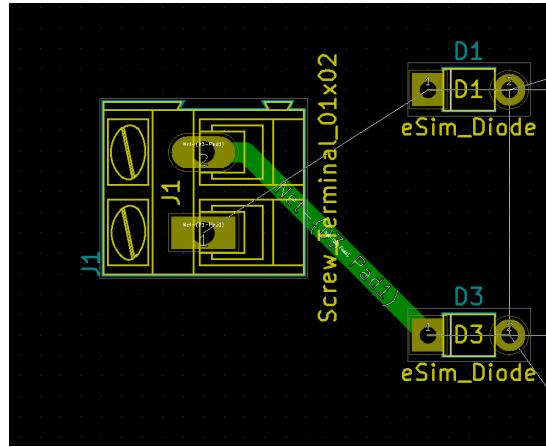

Figure 12.19: Track placed on B.Cu. between Screw\_Terminal\_01x02 connector and D3 Diode
4. Working layer is B.Cu., Place Track tool is selected earlier. Click the pencil icon tied to cursor on the Node 2 of Screw\_Terminal\_01x02 and drag the cursor till Node 1 of D3 diode and double click on Node 2 of D3. By double clicking the track will end at Node 2 of D3. Please refer Fig. 12.19 for the mentioned track being placed.